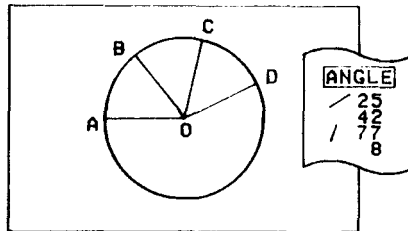

Fig 5
- 13 Draw the radial (OD) as in Fig 5, then switch off **ANGLE**.
- 14 Repeat for (OE), (OF) and (OG). Use X vernier for (OE), and Y vernier for (OF), (OG).